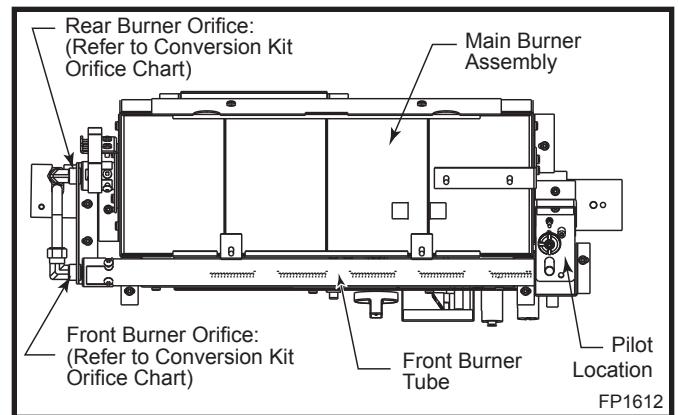

Fig. 75 Remove manifold assembly.
1. Remove bracket rear log and front grate. (Fig. 75)
2. Remove burner housing assembly and front burner tube. (Fig. 75)
3. Remove burner orifice from manifold assembly using 3/8" wrench. (Fig. 75)